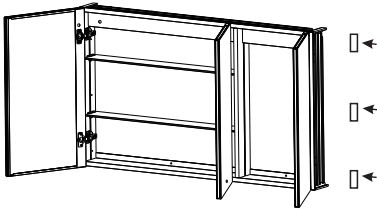

Fig.3
- 2.1 Paste EVA foam rubber pad on the mirror cabinet (Fig.3)